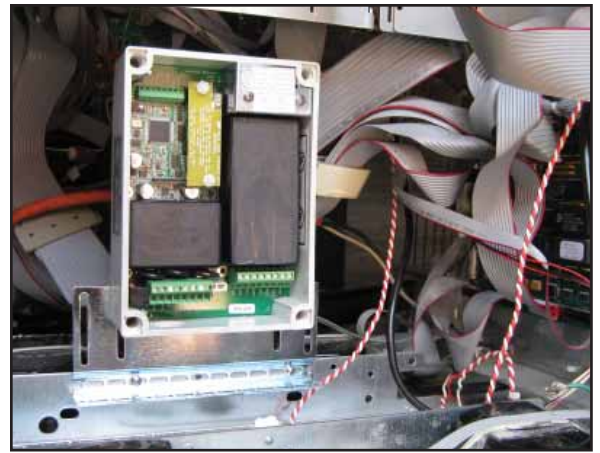

Figure 3: Mount DTU in Dispenser
5. Install the DTU assembly on the horizontal cross bracket as shown in Figure 3. Use the two screws, washers, and nuts as supplied in the TS-DTU/P hardware kit.